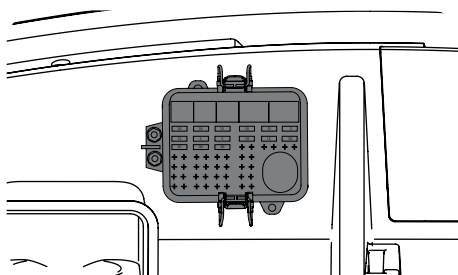

Figure 5-24
- Open the mini fuse box cover. See Figure 5-24.